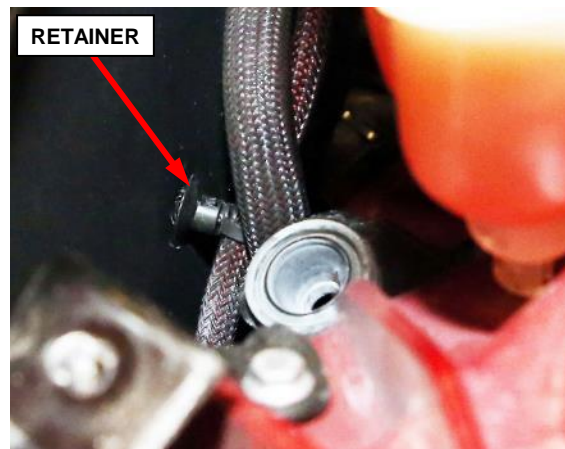

Figure 32 – Wire Harness Retainer
39. Release the wire harness retainers from the outside air manifold (Figure 32).
87. Install the wire harness retainers to the outside air manifold (Figure 32).